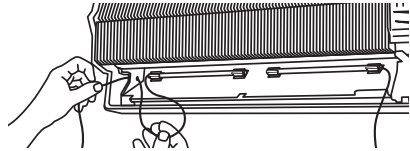

Figure 4. Pass lamp cords through AC system.
- Pass the UV lamp cables through the back of the AC system. (Figure 4)